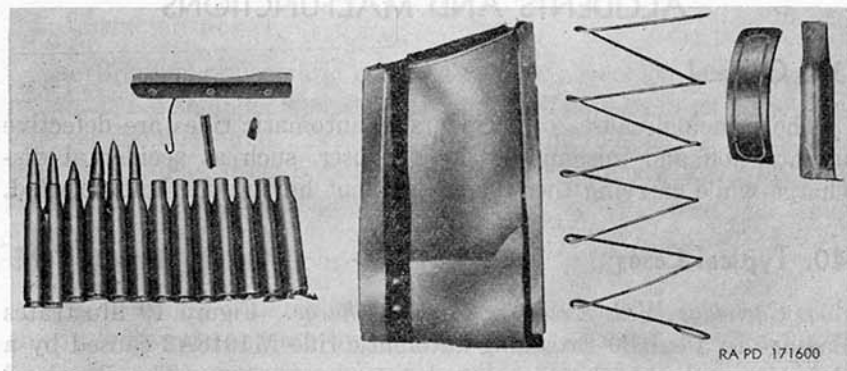

Figure 20. Browning automatic rifle and cartridges damaged by cartridge with soft head.
b. Soft Head. A cartridge with a soft head can detonate other cartridges in the magazine and damage gun parts, as shown in figure 20.